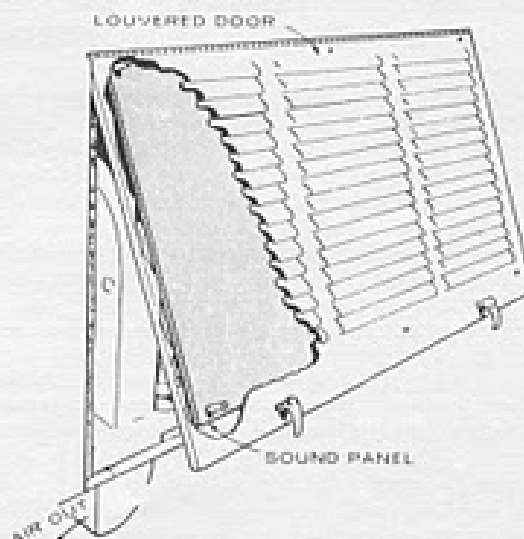

FIGURE 4. TYPICAL LOUVERED DOOR AIR INLET
Sheet metal with louvers can be used over inlet areas. However, some provide only 60 percent free inlet area per square foot. Even the most efficient grille only provides about 90 percent free inlet area per square foot. The free inlet area of the material can be obtained from the manufacturer. Calculate the inlet area needed using the following information as a guide. See Figure 4.
4. To prevent line of sight noise, a sound panel (baffle) may be added behind louvered air inlet. The panel must be spaced to allow for minimum free air inlet of 85 square inches. See Figure 4.